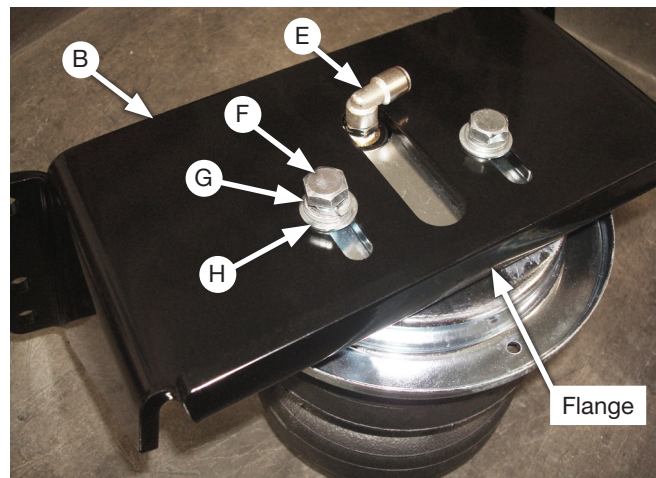

Fig. 5
2. Set the upper brackets (B) on top of the air spring assemblies and attach them to the air springs with 3/8" hex cap screws (F), 3/8" lock washers (G) and 3/8" flat washers (H) (Fig. 5). Leave loose at this time.